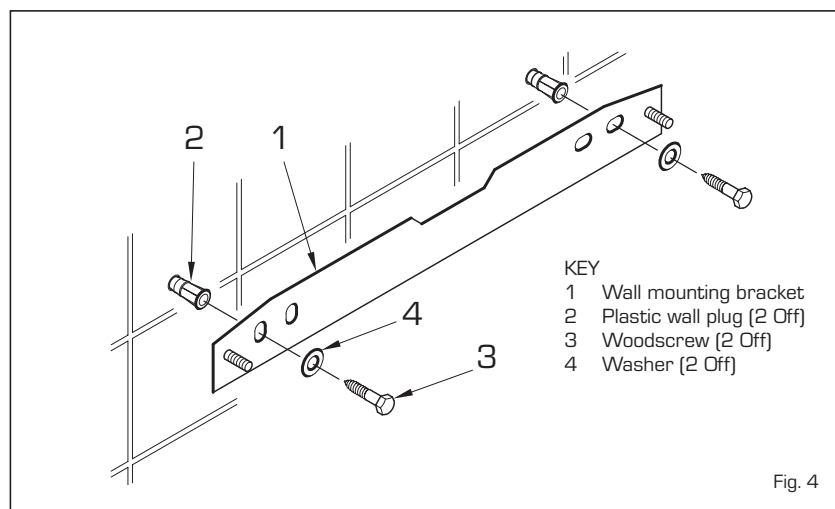

Fig. 4
- Secure the wall mounting bracket in position using the screws provided. Ensure that it is the correct way up, as indicated in fig. 4.